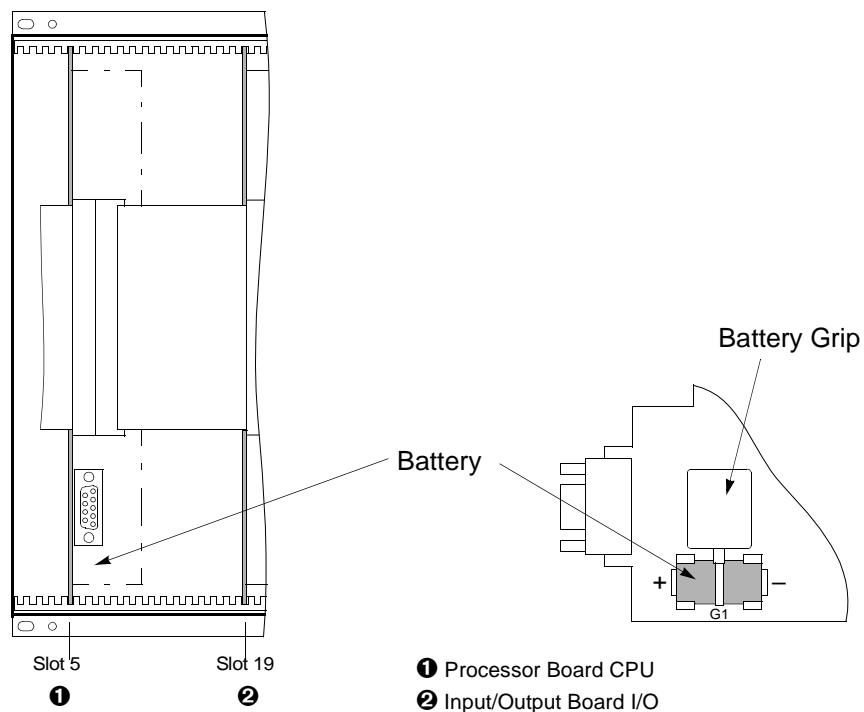

Figure 9-1 Front View without Front Panel – Position of Buffer Battery (simplified and reduced)
- ☐ The battery is located on the bottom-front side of the CPU (❶) board. See Figure 9-1.
- ☐ Remove the old battery from the snap-on connector using the plastic battery grip shown in Figure 9-1.
- ☐ Observing the polarity and firmly insert the new battery into the snap-on connector shown in Figure 9-1.
- ☐ Connect the ribbon-cable between the CPU (❶) board and the front panel. Be especially careful not to bend any of the connector pins! Do not use any force! Be sure that the plug connectors latch.